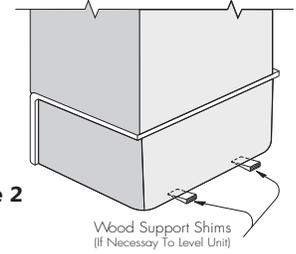

Figure 2
4. These units are trimmed to be self-leveling at the factory. If the subfloor at the installation site is not perfectly level, it will be **MANDATORY** to provide shims under the back edge of the unit to level the unit. See Figure 2 if shimming is required.